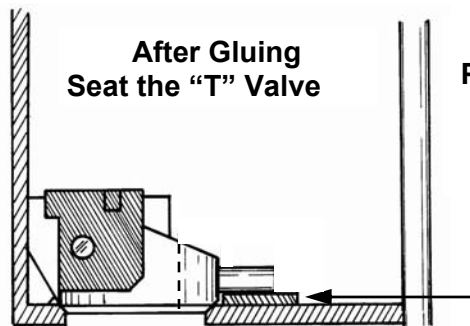

Figure 2
7. Immediately, prior to the glue setting, center the "T" Valve into the water valve port opening. Place the Pin Elevation Tool (supplied) in front of the port and under the 'T' valve elevation pin, either raising or lowering the pin until contact is made with the tool. Be sure that the "T" Valve remains seated in the water valve port opening (see **Figures 2 and 3**). Carefully remove the Pin Elevation Tool. **Note: Correct seating of the 'T' Valve is the essential part of proper water valve operation. Do not be concerned with the location of the top guides of the clip.**